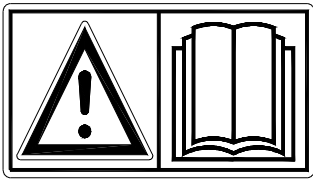

Fig.1
**Read and understand** (Fig. 1) the manual before starting to use the Verti-Drain®.